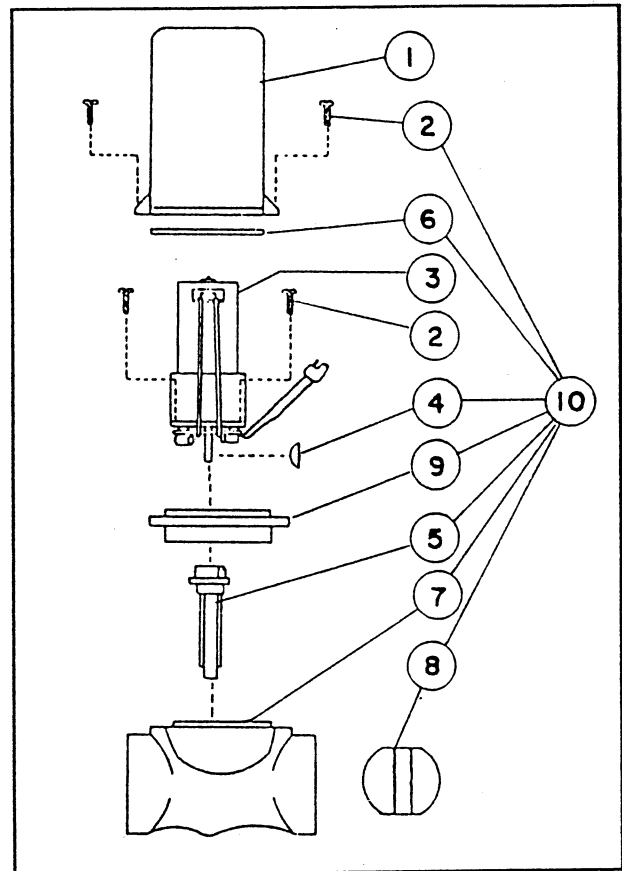

FIG. 12
When reassembling the valve, grease both sealing surfaces of the coupler shaft. Insert the coupler shaft into the iso-flange (9) and be sure seal properly seats on the shaft. Install on valve body and apply RTV 738 or equivalent to the mounting holes. Reassemble remaining items as shown in the parts diagram, FIG. 12.